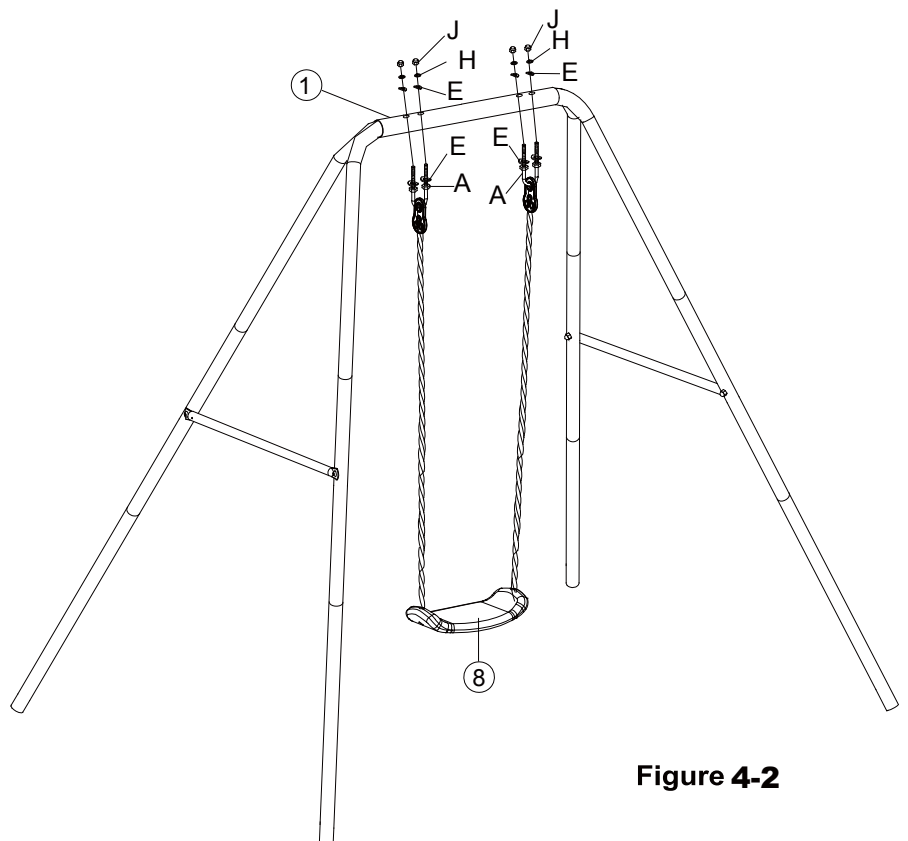

Figure 4-2
Loop U-bolt (A) through the plate at the top of the swing and secure it to Beam (1) using E,H and J in the sequence shown in FIGURE 4-2.